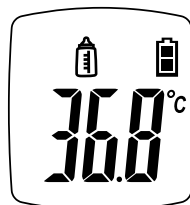

Figure 3.2
3. Keep vertical distance 2"–3" (5–8 cm) from the object to the measurement probe. Press measurement button and thermometer will give a "beep" to indicate measurement is finished and value will be displayed (Figure 3.2). If measurement value exceeds alarm value (default value is 100.4°F or 38°C), it gives three consecutive "beeps" as indication.